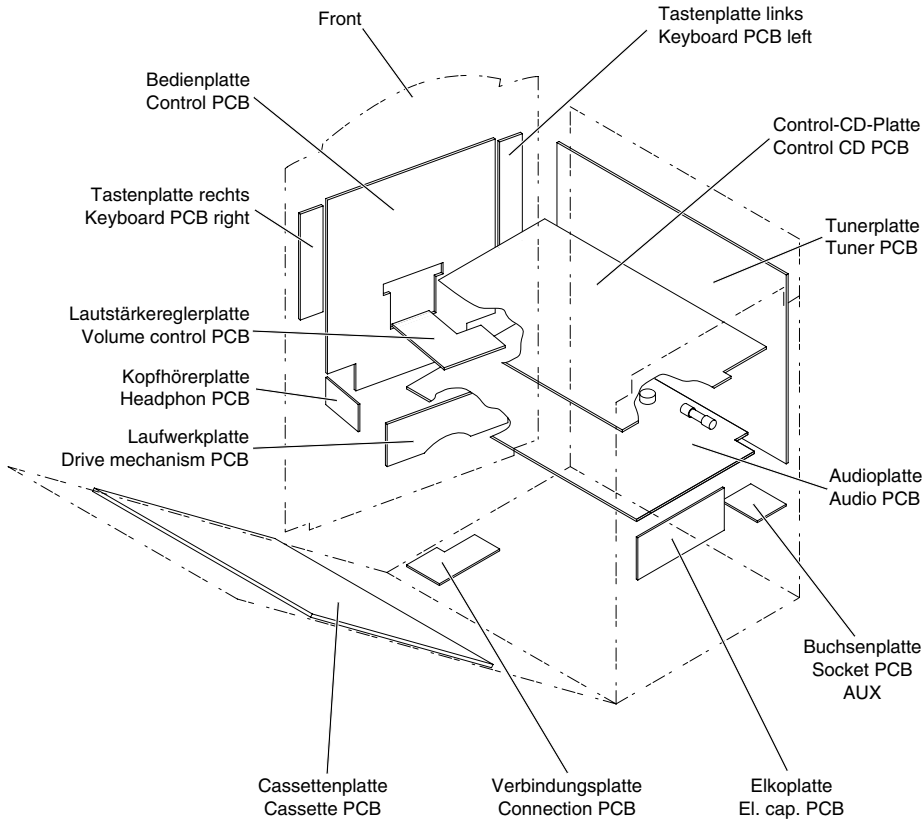

Fig. 1
1. Removing the Rear Panel, Fig. 1